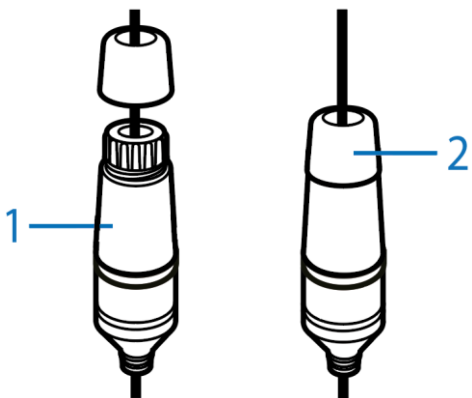

Figure 6
- Securely attach the waterproof cap to the RJ-45 connector by securely attaching the two parts identified in Figure 6.